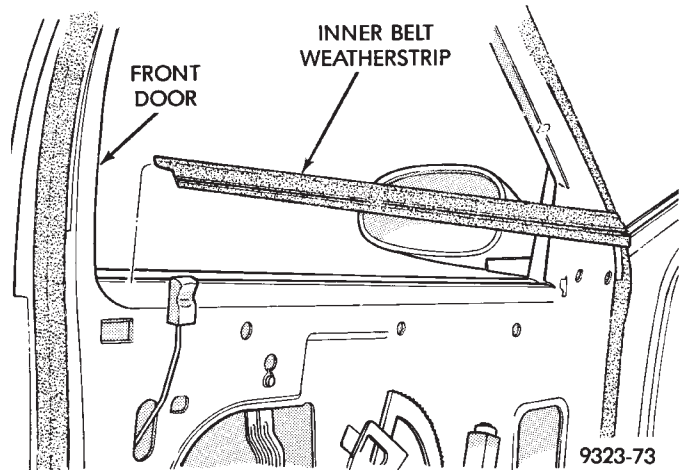

Fig. 17 Front Door Inner Belt Weatherstrip
- (1) Remove door trim panel.
- (2) Lift inner belt weatherstrip upward to disengage channel from top of inner door panel.
- (3) Separate belt weatherstrip from door (Fig. 17).